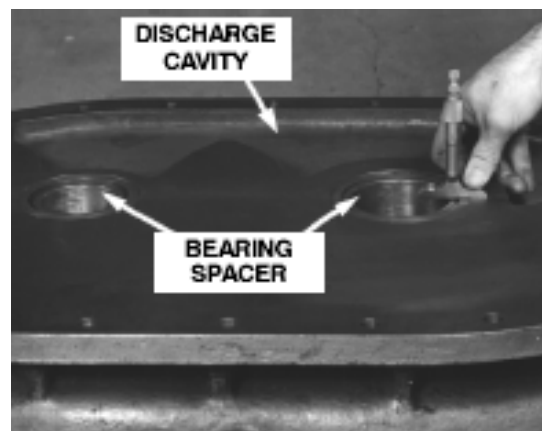
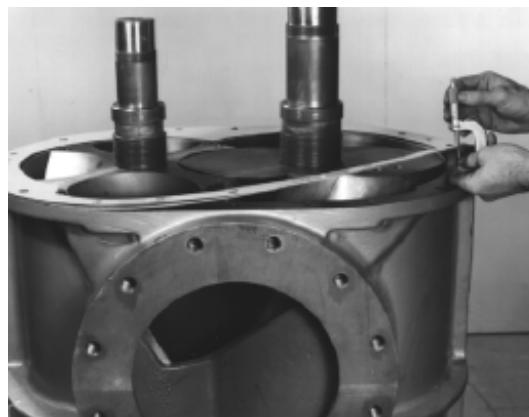
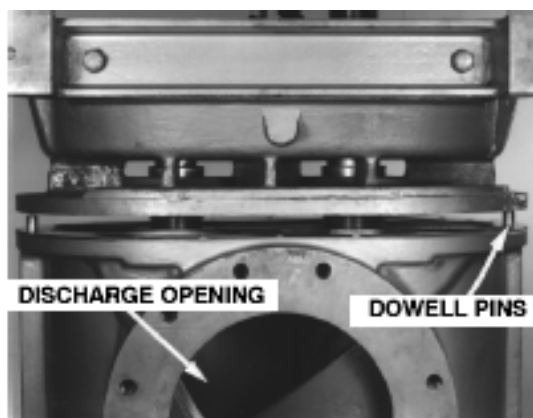

FIGURE 7-7 – DISCHARGE END BEARING CARRIER
FIGURE 7-10 – OUTSIDE MICROMETER
FIGURE 7-11 – DISCHARGE OPENING
7. Inspect bearing spacers for burrs on either end and polished area of O.D. Slip bearing spacer through the shaft seal with the polished end toward the bearing. Make sure the spacer is resting solidly against the bearing. With depth micrometer, measure the distance from the face of the carrier to the end of each of the bearing spacers, FIGURE 7-7, page 42.
10. Select the correct thickness of aluminum shims (27) to give the shim set established in Step 9. Check the thickness of the shims with an outside micrometer (FIGURE 7-10, page 43). Place the shims on the end of the housing, matching the pointed section of the shims with the contour of the housing. Remove bearing spacers from the discharge end bearing carrier, (FIGURE 7-7, page 42). Apply Loctite 620 to the I.D. of the bearing spacer. Place them over the shaft extensions grooved end toward rotor. Be sure the spacer fits solidly against the rotor. If measurements in Step 8 differ, make sure the bearing spacer is placed over its respective shaft extension to assure proper end clearance of each rotor.
11. Coat the I.D. of the shaft seals (22, 23) in the discharge end bearing carrier with oil. Remove bearings from the carrier. Tag bearings so they will be reassembled in the same bearing bore from which the measurement was made. Match the cavity of the carrier, (FIGURE 7-7, page 42), with the discharge opening of the housing (FIGURE 7-11), and lower the carrier, suspended plumb, in place on the housing. Be careful not to damage I.D. of the shaft seal by the shaft extension. Be sure there are no shaft shims in place during this operation as sharp edges of shims will damage the seals. Tighten the carrier to housing screws (56, 58) evenly to prevent damage to dowel pins.